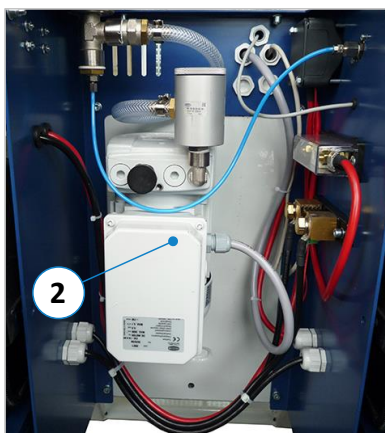

Figure 16: Vacuum unit
- The heart of the system is the vacuum unit (2) shown in ⇒ Figure 16, including the electric vacuum pump. These components are located in the blue housing between the two batteries.